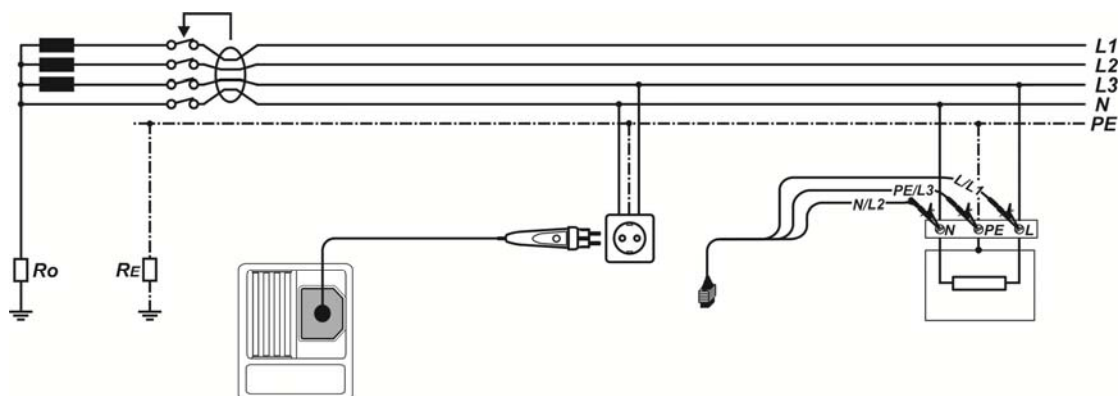

Figure 5.17: Connecting the plug commander and the 3-wire test lead
- ❑ **Connect** test leads to the item to be tested (see *Figure 5.17*).
- Connect** test leads to the item to be tested (see *Figure 5.17*).
<ul style="list-style-type: none"> <li><input type="checkbox"/> Select the RCD function using the function selector switch.</li> <li><input type="checkbox"/> Set sub-function to AUTO using UP / DOWN keys.</li> <li><input type="checkbox"/> Set test parameters (if necessary).</li> <li><input type="checkbox"/> Connect test cable to the instrument.</li> <li><input type="checkbox"/> Connect test leads to the item to be tested (see Figure 5.17).</li> <li><input type="checkbox"/> Press the TEST key to perform the test.</li> </ul>	Start of test